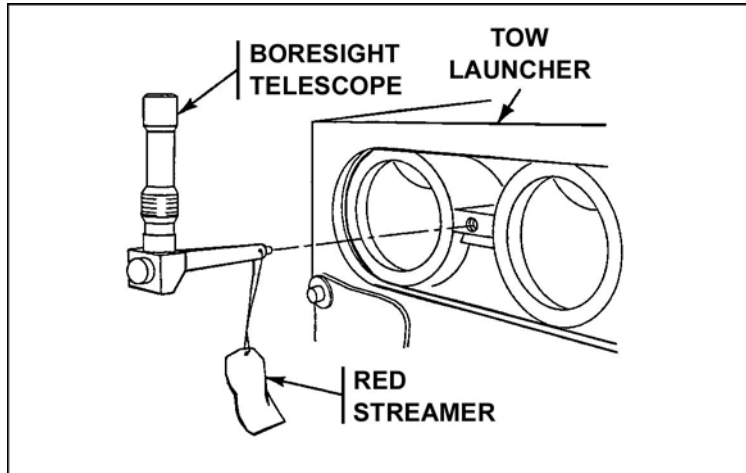

Figure 31. Boresight telescope.
- (7) Close the coaxial machine gun access doors.
- (8) Use DVO (preferred), or DAY TV sight.
- (9) Center TAS reticle on boresight panel using the GHS.
- (10) Range panel using the LRF or by entering the range manually using the GSCP.
- (11) Ensure the reticle is in the center of the panel, if not repeat step (9).
- (12) Press CALCULATE using the soft key function on the CTD.
- (13) Press SAVE to use the new values or repeat the test from step (1).
- (14) Remove the boresight telescope and adapter with streamer from the 7.62mm coaxial machine gun barrel and move it to the TOW launcher (Figure 31).